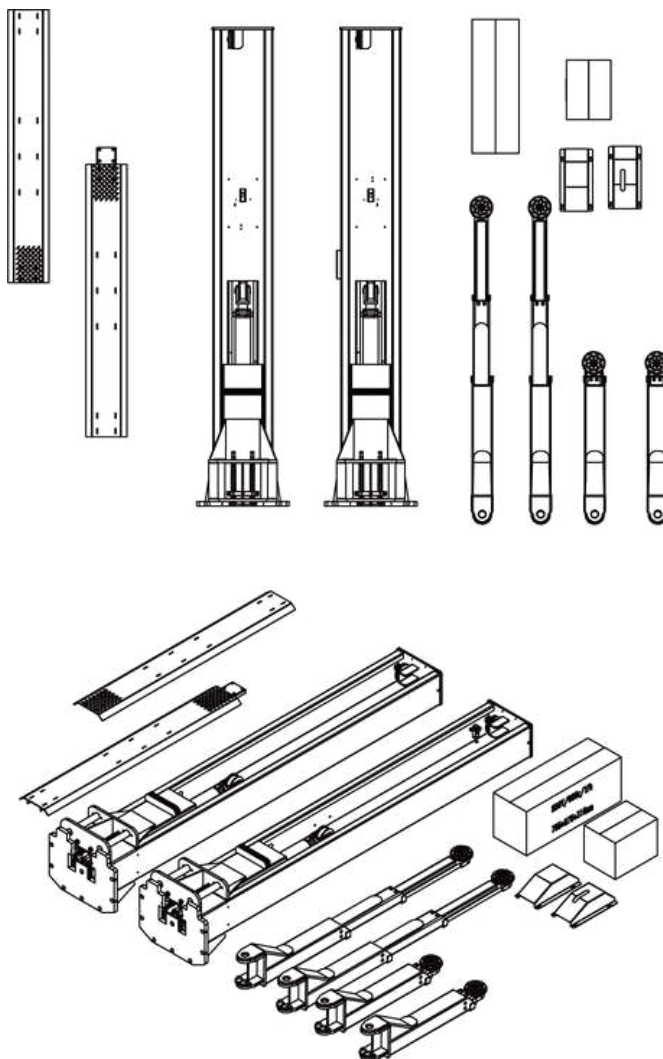

FIG 6
Step 2:Move aside the parts and check the parts according to the shipment parts list (See Fig 6).